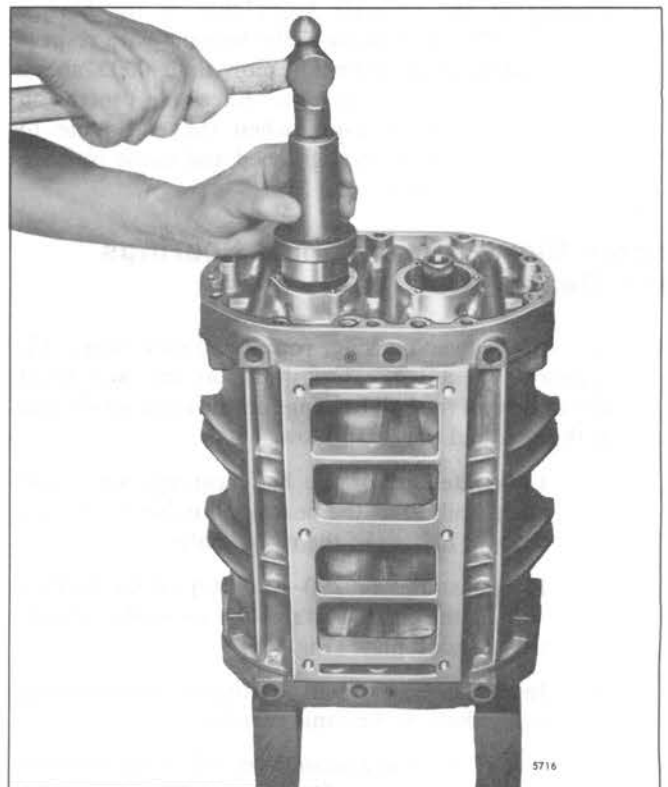

Fig. 19 – Installing Ball Bearings on Rotor Shaft and in Rear End Plate with Tool J 6270–13
- b. Place installer J 6270–13 on top of the bearing and tap the bearing straight on the shaft and into the rear end plate (Fig. 19).